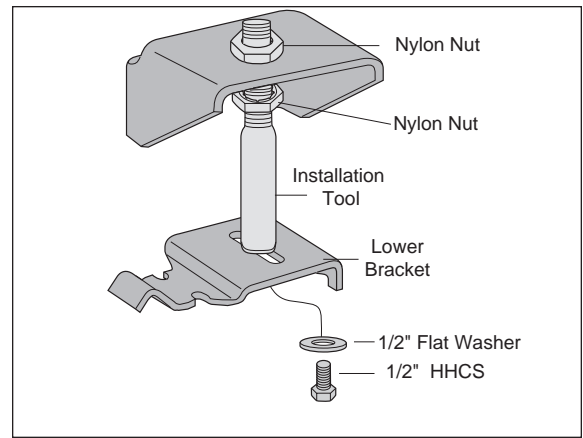

Figure 4
1. Secure the upper bracket (A) to the installation tool (M) using the provided nylon nut (L) (Figure 4).
2. Loosely attach the tool to the lower bracket (B) using 1/2" flat washer (K) and 1/2" bolt (J). Refer to Figure 4. Leave loose for adjustment.